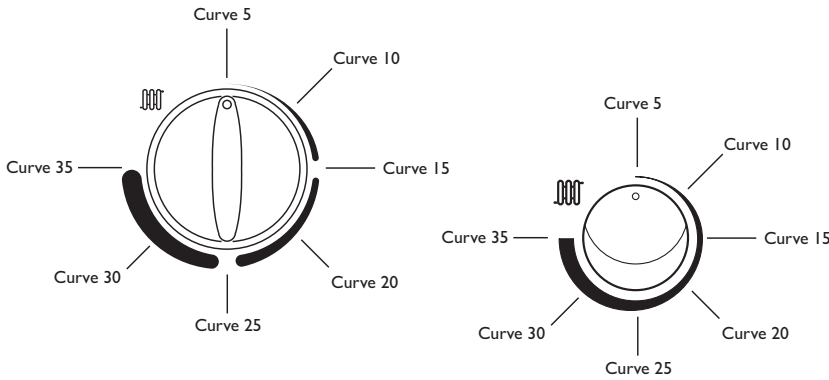

Fig. 14
2. The Central Heating Control Knob should be turned clockwise to the position in Fig. 14 which corresponds with the desired curve as shown on the graph below.